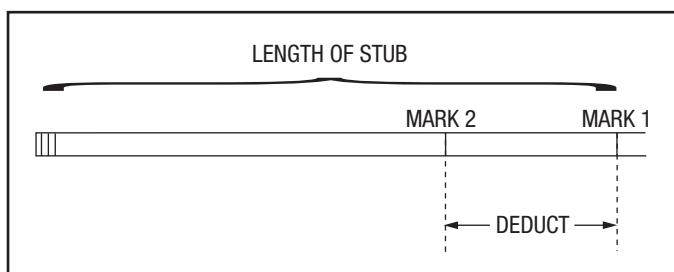

Figure 2
3. Measure and mark the stub length on the conduit. This is mark 1. Subtract the deduct from the stub and mark the conduit. This is mark 2, or the bending mark. Refer to Figure 2.